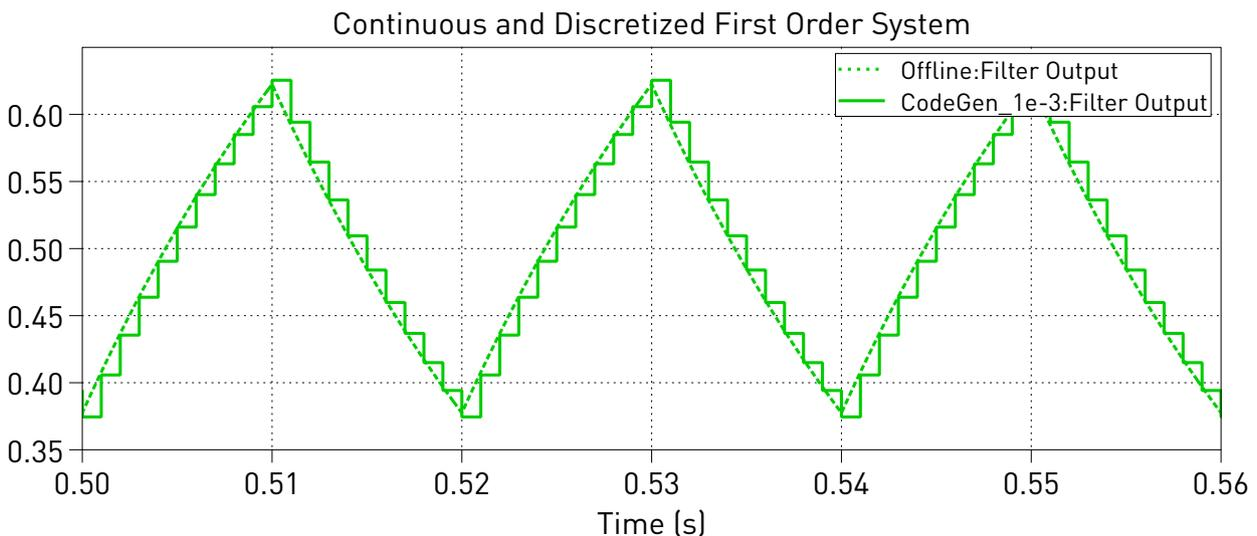

Figure 10: Comparison between “Offline” and “CodeGen” results
- 6 Run the simulation and save all new Scope traces as “CodeGen_1e-3”. Notice the Scope within the Subsystem did not update. Open the Scope on the top-level schematic and zoom into the waveforms until the impact of system discretization is apparent. Figure 10 shows the output from the simulation.